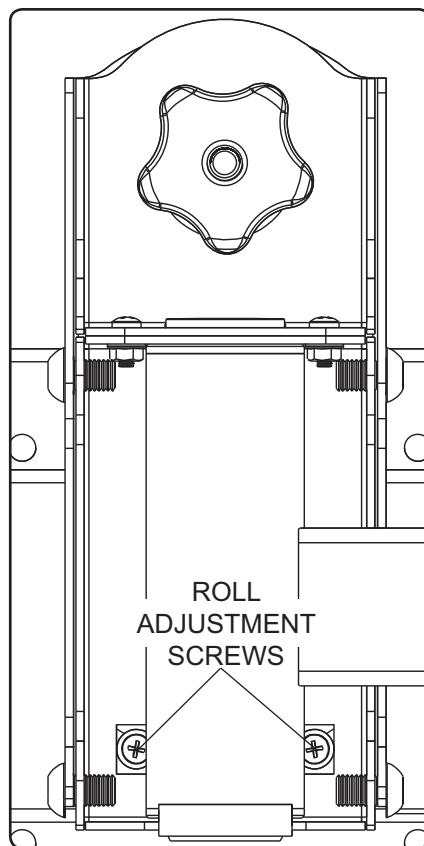

fig. 7.1
- 7-1** If it is too difficult to adjust roll of plasma, loosen screws shown in figure 7.1 using a phillips screwdriver.